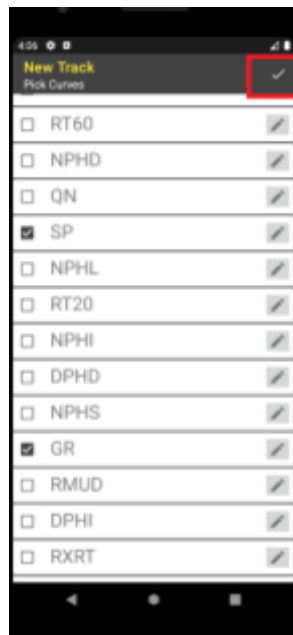

Figure 6
13. Click the check mark button in the upper right hand portion of the screen to finish picking curve data for this track as seen in **Figure 6**.